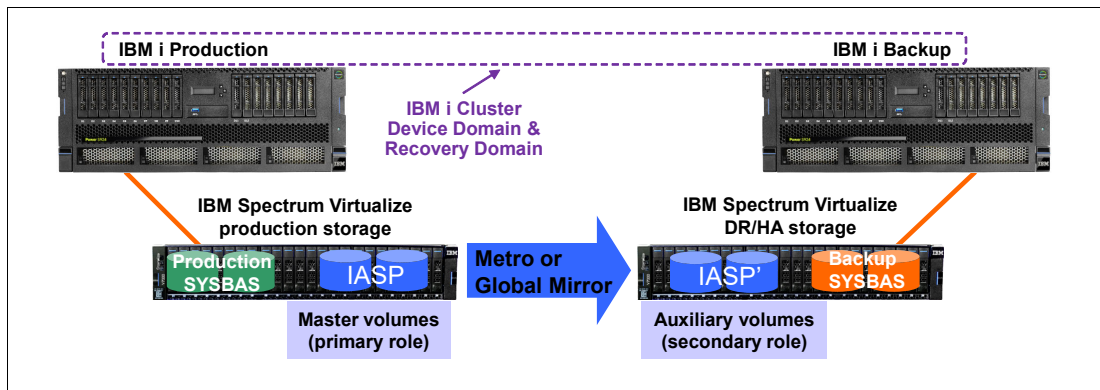

Figure A-12 IBM i IASP replication with IBM Spectrum Virtualize
IASP based replication for IBM i is used for a high availability (HA) solution where an IBM i production and an IBM i backup node are configured in an IBM i cluster and the IASP that is replicated by IBM Spectrum Virtualize remote replication is switchable between the two cluster nodes as shown in Figure A-12 on page 549. In this scenario the IBM i production system and the IBM i backup system each have their own non-replicated SYSBAS volumes and only the IASP volumes are replicated. This solution requires IBM PowerHA